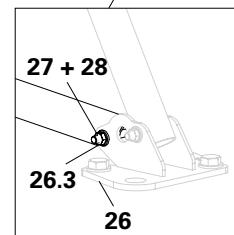

Fig. D7.06b
1. Fit an inner tube (**25.2**) onto the front hole (**26.3**) of the base plate (**26**) by means of bolts (**27**) and nuts (**28**). (Fig. D7.06b).